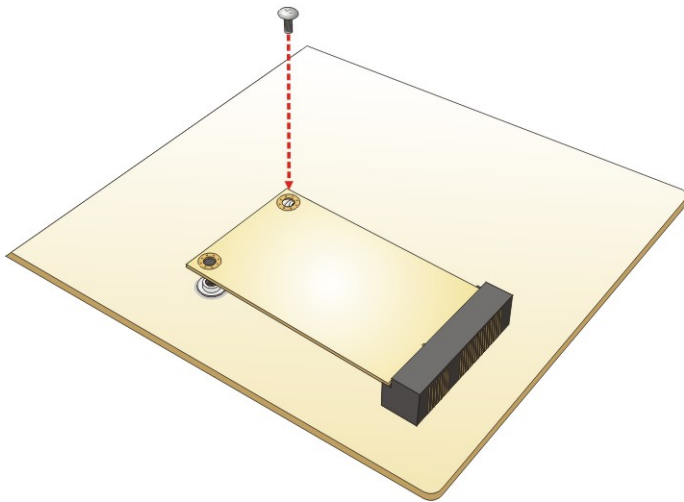

Figure 3-4: Securing the Full-size PCIe Mini Card
Step 4: Secure the full-size PCIe Mini card with the M2*3 screw shipped with the IVS-110 (**Figure 3-4**).